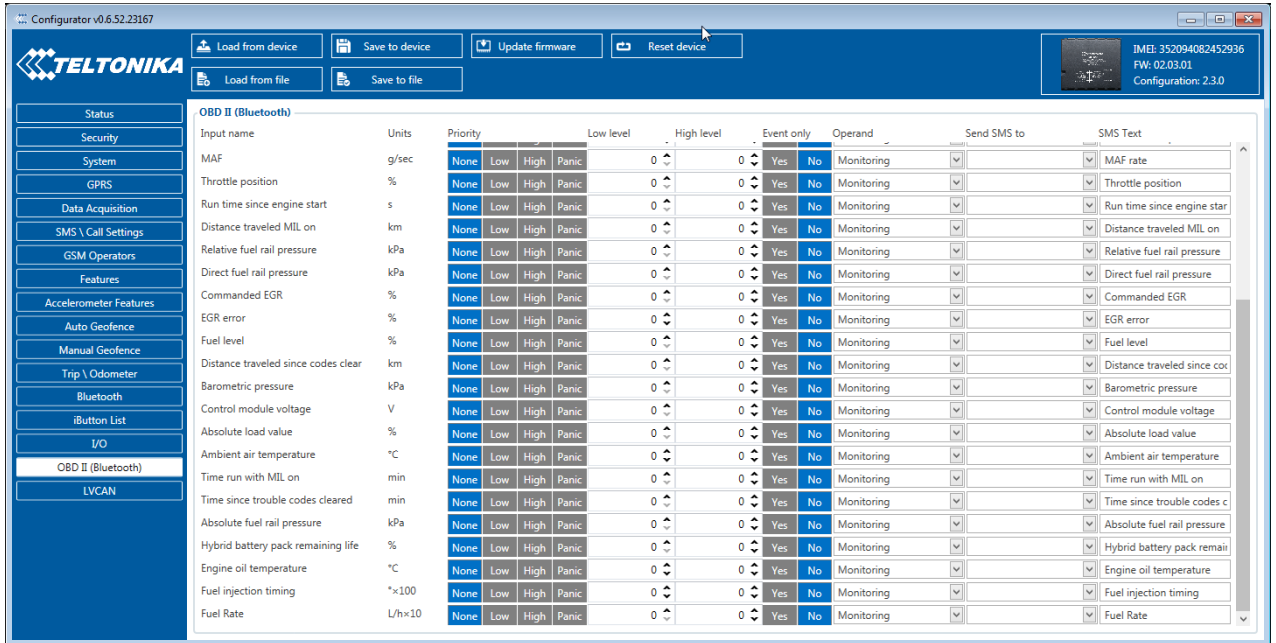

Figure 47 OBD II Blue-tooth settings.
- Go to **“OBD II (Blue-tooth)”** in left menu and select priority and others parameters visible at **Figure 47**.